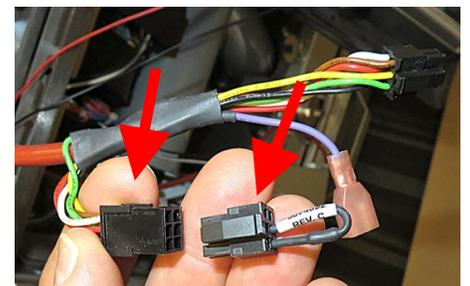

Figure 16
22. Attach the 6-pin male terminator removed in step 16 into the 6-pin female connector of new OQS harness (see Figure 16).